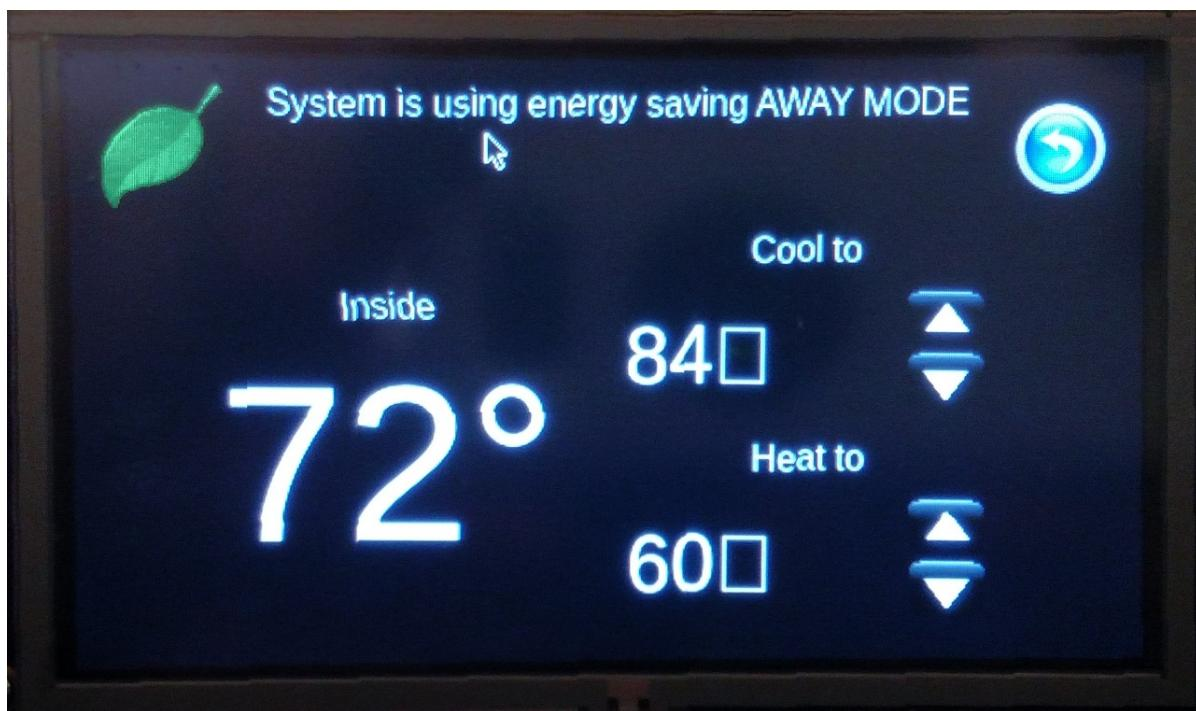

图 10. Smart Thermostat Demo GUI: Energy Saving Screen
5. The Airplane icon in 图 9 leads to the energy saving mode screen shown in 图 10.